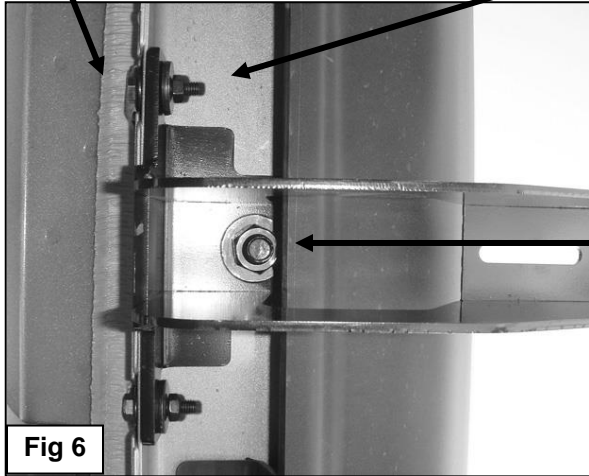

Fig 6
- Select (1) Mounting Bracket and secure it to the Bolt Plate with (1) 12mm x 24mm Flat Washer and (1) 12mm Serrated Flange Nut, **(Figure 6)**. Do not tighten hardware at this time.
- Line up the (2) small slots in the Bracket with the (2) holes in the pinch weld. Insert (1) 6mm x 25mm Hex Bolt with (1) 6mm x 18mm STD Flat Washer through the pinch weld and then the Bracket. Secure the Bracket to the Hex Bolt with (1) 6mm x 22mm Large Flat Washer and (1) 6mm Nylon Lock Nut over the Bracket, **(Figures 6 & 9)**. Do not tighten hardware at this time. Repeat for remaining mounting hole in Bracket and pinch weld. **NOTE:** Insert 6mm Hex Bolts with STD Flat Washers through the back of the pinch weld first, and then out through the Bracket.